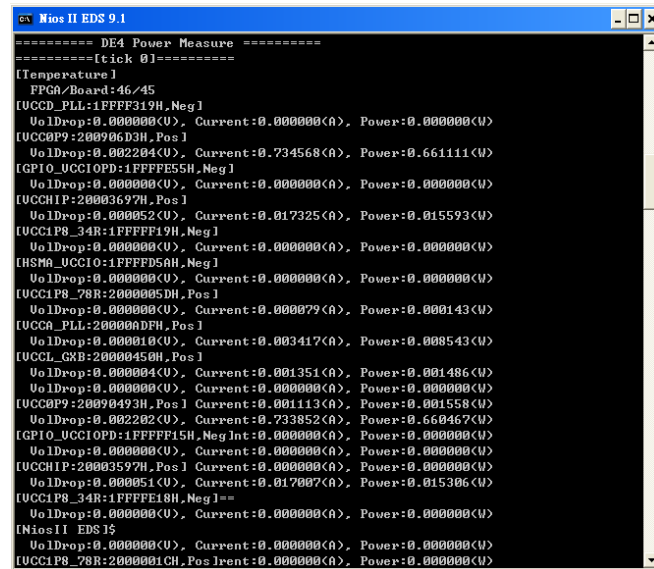

Figure 5–31 Power consumption information
- The program will display current power consumption information, as shown in Figure 5–31. The information is updated every two seconds.